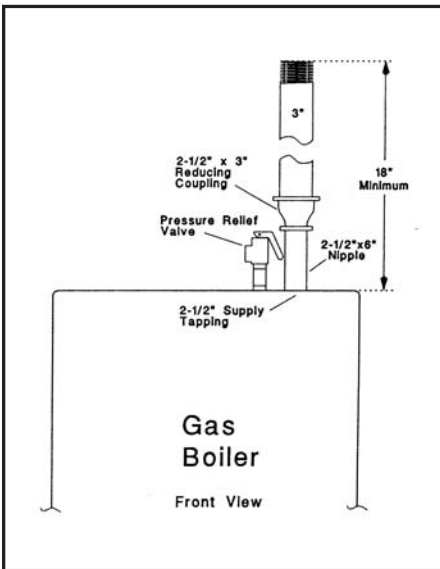
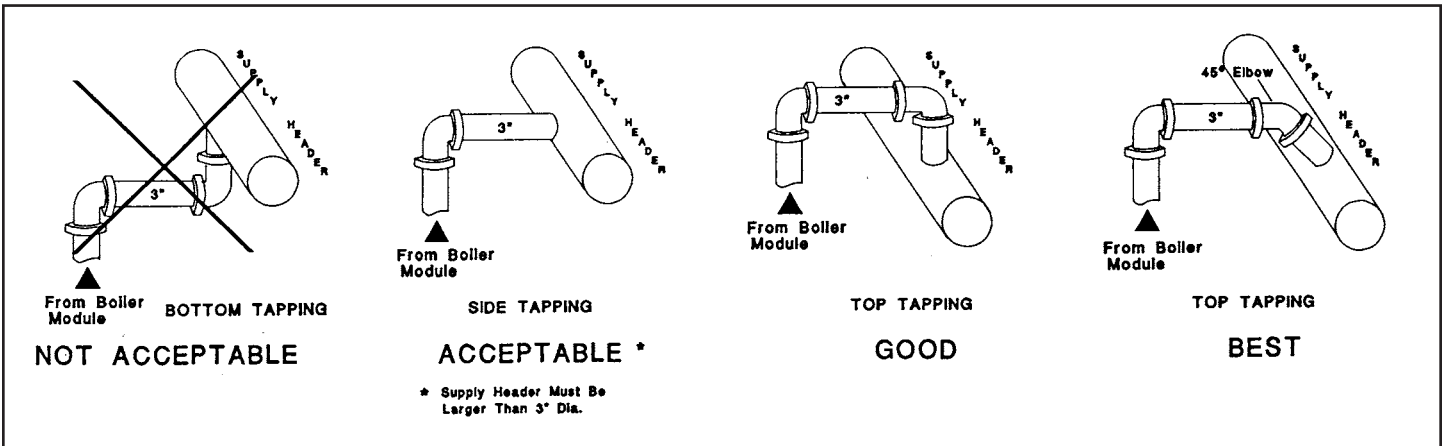

Figure 10: Steam supply header at gas modules
Figure 9: Steam supply header piping
pipng arrangement. Figure 9 shows the piping arrangement between the module and header connections. In this area, try to keep the number of elbows to a minimum (maximum 3). It is important to note that a pressure difference of as little as one ounce (1/16 PSI) between modules will result in a water level difference of almost 2 inches.
4. The module supply pipe must be increased from 2½" x 6" to at least 3" (see figure 10, page 9). As shown, a 2½" x 6" nipple is installed in the module supply tapping followed by 3" x 2½" reducing coupling and a 3" supply pipe. The 2½" x 6" nipple is necessary to provide the needed clearances to remove the pressure relief valve for servicing and replacement. To minimize pressure drop, no more than three 90 elbows should be installed between the module supply tapping and the steam header (see figure 9, page 9).
6. To prevent accumulation of condensate, steam headers should be pitched down in the direction of steam flow and toward the equalizer/drain with no reduction in size. Module connections must be on the side of the header (horizontal) or at any angle between the side and top of header, never between the side and bottom. To prevent condensate in the header from re-entering the boiler supply pipe, side connections must enter a header that is at least one size larger than the boiler supply connections. Top or 45° top-angle connections are preferred and can enter a header of the same size or larger. See Figure 9. The supply header for each module should be sized according to Figure 10, page 9.